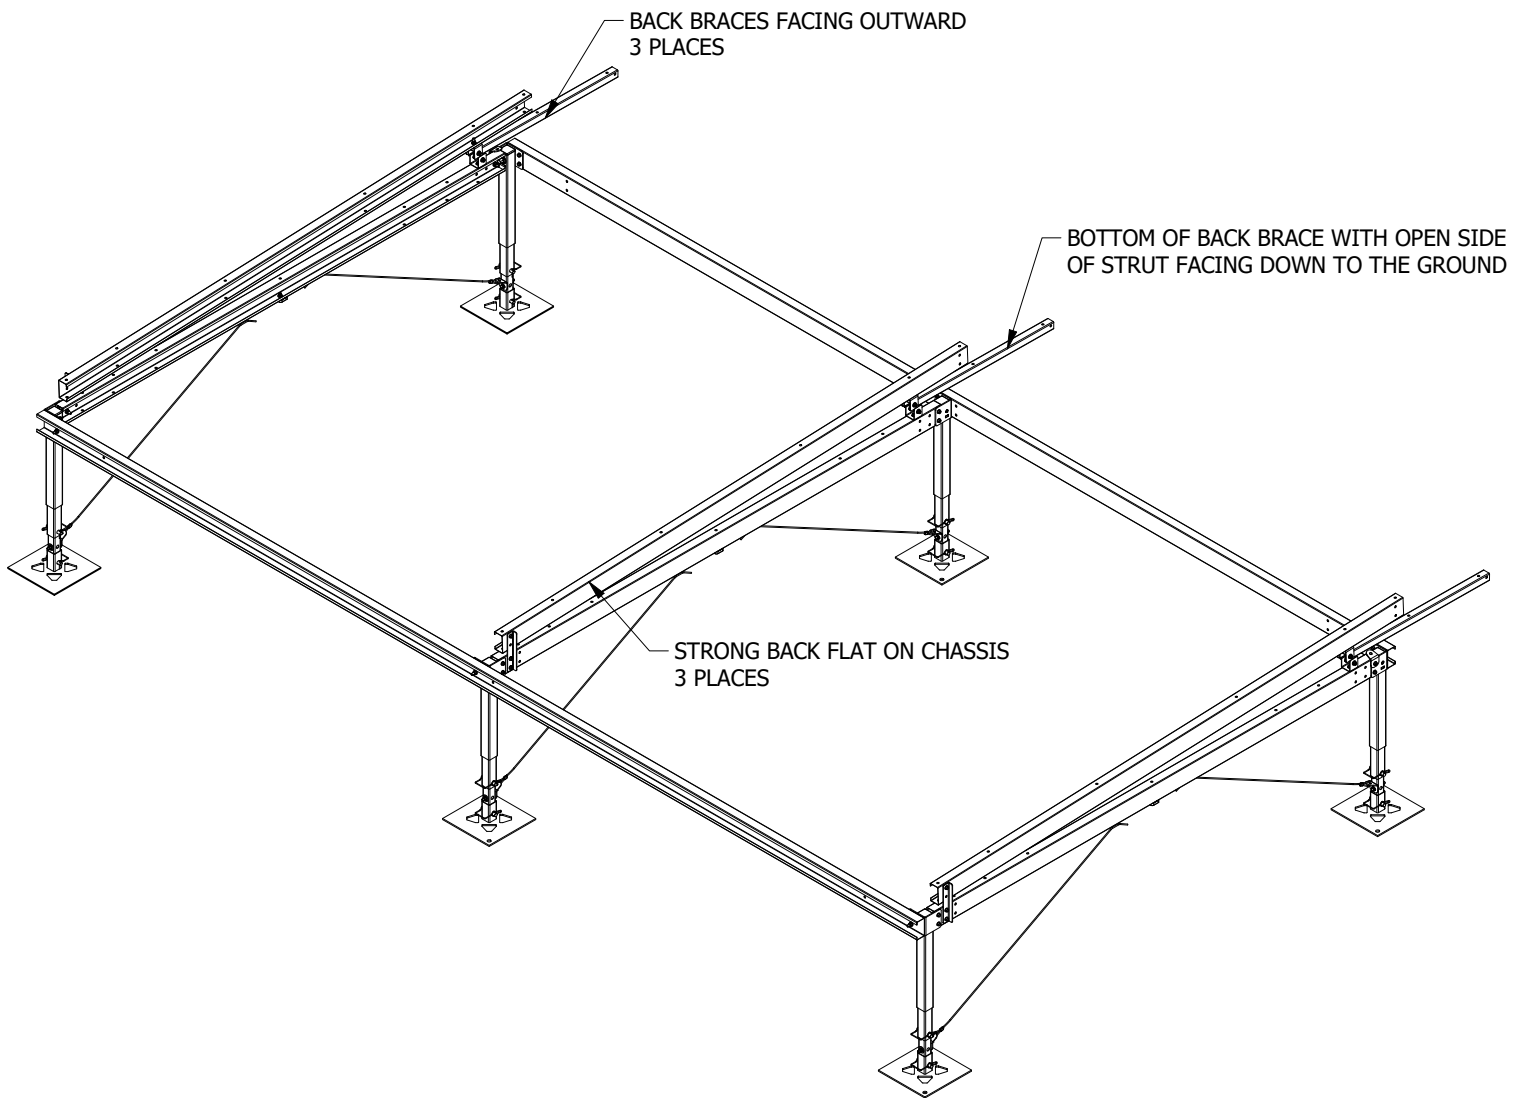

Figure 14: Alternate Back Brace Installation prior to installing Strut Rails.
9. **Alternate method:** The installers can install the back brace flat on the chassis pointing outward toward the rear of the platform prior to installing the rails which will allow for the rails to be installed flat on the chassis for easier fastening. Note: install the top of the Back Brace first and use as a pivot joint when lifting the upper section into place. Requires 3 installers. See Figure 14 on next page.